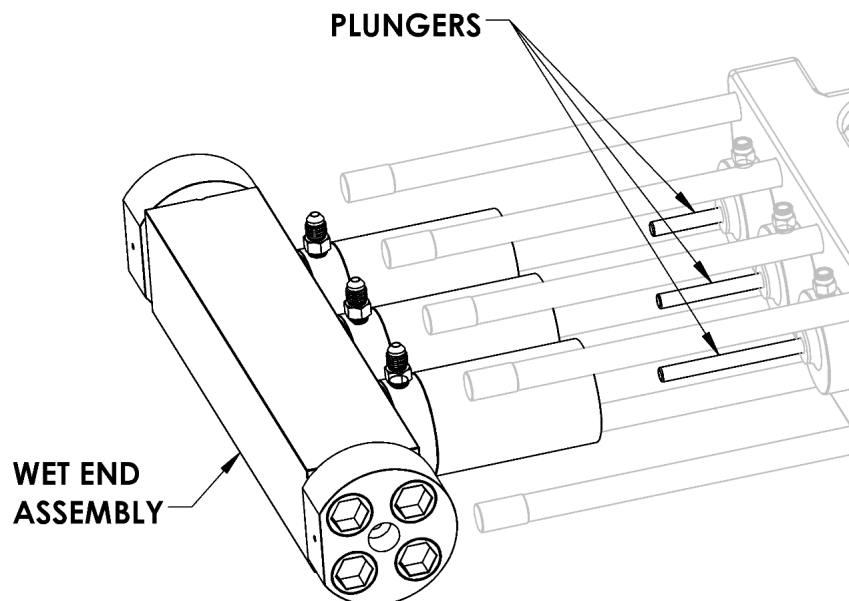

Figure 43 Sliding the Wet End Assembly Over the Plungers
3. **Take** the wet end assembly that was previously set aside and **slide** it over the plungers—once you've begun do not pull the wet end assembly back as this could cause internal components to move from their original assembled positions. Once the cylinders begin to slide over the short seal rings (see **Figure 43** below), it is possible that they will not go all the way on by hand. The gap that occurs between the end of the cylinders and the coolant housings assemblies will close when you correctly **torque** the wet end assembly.